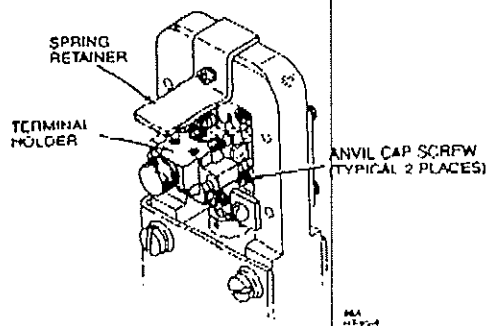

Figure 6
1. Using the 3/32-inch Allen wrench (supplied with hand tool), loosen the attaching cap screw(s) for the defective anvil(s). See figure 6.
A pinch point exists between the hand tool's spring retainer and terminal holder (see figure 6). To prevent injury, always keep your fingers clear of this area when operating the hand tool.